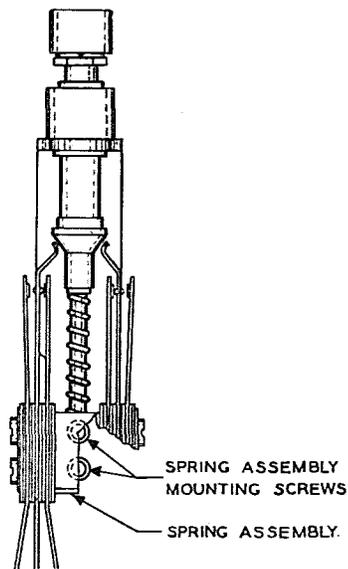

Fig. 12 - Position of Spring Assembly Mounting Screws for the 576-, 579-, 582-, and 583-type Keys (No. 576A Illustrated)
3.10 576- and 579-type Keys: To replace the plunger rod, helical spring, washer, or plunger, remove the button as outlined in 3.06. Remove the spring assembly mounting screws as shown in Fig. 12 with the 3-inch cabinet screwdriver and remove the spring assembly, helical spring,
3.11 582- and 583-type Keys: To replace the plunger rod, sleeve, helical spring, washer, or plunger, remove the key from its mounting as covered in 3.05. Remove the spring assembly mounting screws as shown in Fig. 12 with the 3-inch cabinet screwdriver and remove the spring assembly, sleeve, helical spring, washer, or plunger as necessary. Replace the defective part or parts and reassemble them in the reverse order. Tighten the spring assembly mounting screws securely. Remount the key as covered in 3.05.